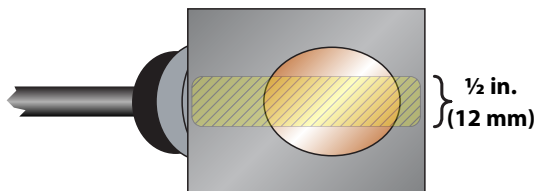

Figure 21: Application of couplant
For DTTR, DTTN, DTTL and DTTH transducers, place a single bead of couplant, approximately 1/2 inch (12 mm) thick, on the flat face of the transducer. See Figure 21. Generally, a silicone-based grease is used as an acoustic couplant, but any good quality grease-like substance that is rated to not flow at the operating temperature of the pipe is acceptable. For pipe surface temperature over 130° F (55° C), use Sonotemp® (P.N. D002-2011-010).
5. For DTTR, DTTN, DTTL and DTTT transducers, place a single bead of couplant, approximately 1/2 inch (12 mm) thick, on the flat face of the transducer. See Figure 21. Generally, a silicone-based grease is used as an acoustic couplant, but any good quality grease-like substance that is rated to not flow at the operating temperature of the pipe is acceptable.
See Figure 21 on page 22.